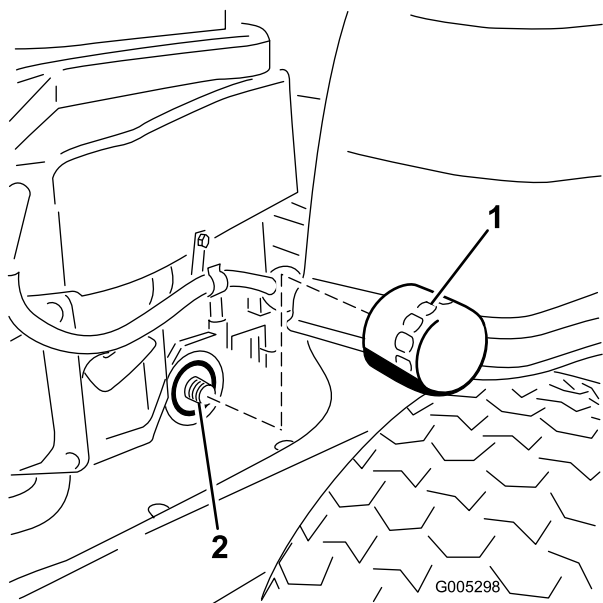

Figure 26
10. Locate the oil filter on the right side of the engine. Remove the old filter and wipe off the filter adapter with a clean cloth (Figure 26).
12. Install the replacement oil filter to the adapter. Turn the oil filter clockwise until the rubber gasket contacts the pad, then tighten the filter an additional 3/4 to 1 turn (Figure 26). Wipe up any excess oil on the frame.